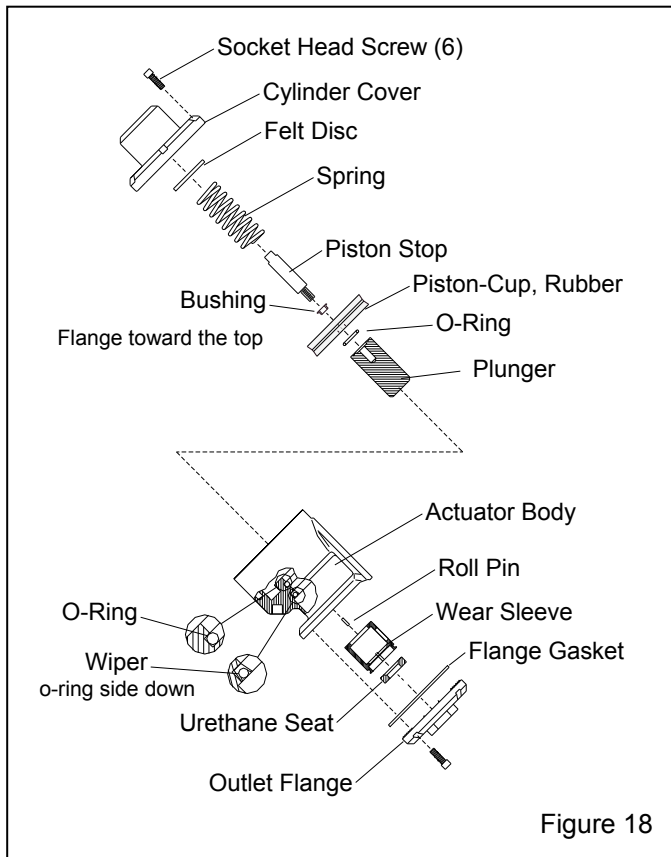

Figure 18
6.7.5 Refer to Figure 18 and unscrew the six socket head screws, and then remove the cylinder cover, spring and felt disc. Spring compression is removed when the cover is approximately 9/16" from the actuator body.
6.7.12 Replace the wiper and o-ring in the actuator body, the o-ring side of the wiper must face toward the bottom of the body, as shown in Figure 18.